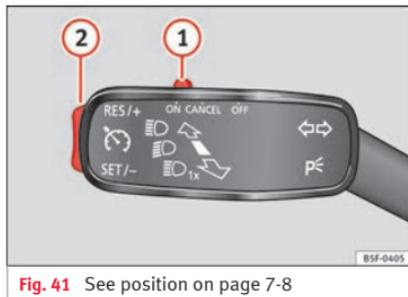

Fig. 41 See position on page 7-8
- Switching on the CCS: Move switch » » » **Fig. 41 1** to **ON**. The system is on. If no
- Activating the CCS: Press button » » » **Fig. 41 2** in the **SET/-** area. The current speed is memorised and controlled.
- Temporarily switching off the CCS: Move switch » » » **Fig. 41 1** to **CANCEL** or push the brake. The cruise control system is switched off temporarily.
- Reactivating the CCS: Press button » » » **Fig. 41 2** in **RES/+**. The memorised speed is saved and controlled again.
- Switching off the CCS: Move switch » » » **Fig. 41 1** to **OFF**. The system is disconnected and the memorised speed is deleted.